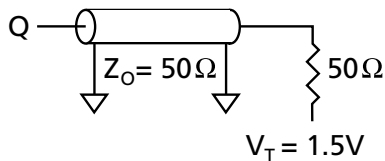
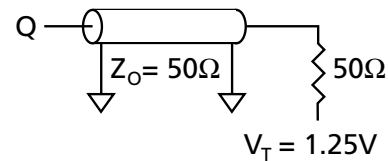

Figure 1
Figure 3
1. Test conditions as specified with the output loading shown in Figure 1 for 3.3V I/O ($V_{DDQ} = +3.3\text{V} \pm 0.3\text{V}/-0.165\text{V}$) and Figure 3 for 2.5V I/O ($V_{DDQ} = +2.5\text{V} \pm 0.4\text{V}/-0.125\text{V}$) unless otherwise noted.
Output load See Figures 1 and 2
Output load See Figures 3 and 4